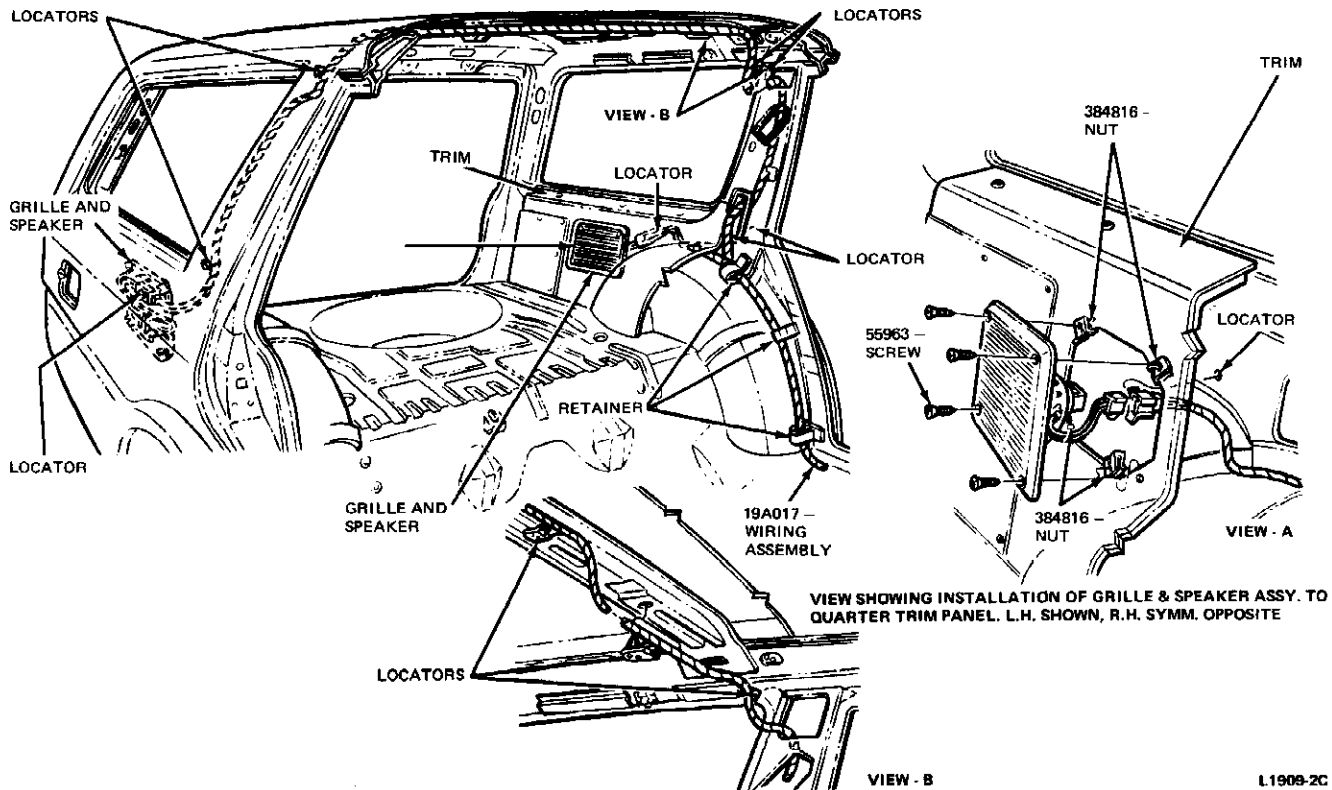

FIG. 13 Rear Speakers—Ford, Mercury, Fairmont and Zephyr—Station Wagons
2. Lift the speaker and grille assembly from the trim panel and disconnect the speaker connector lead (Fig. 13).